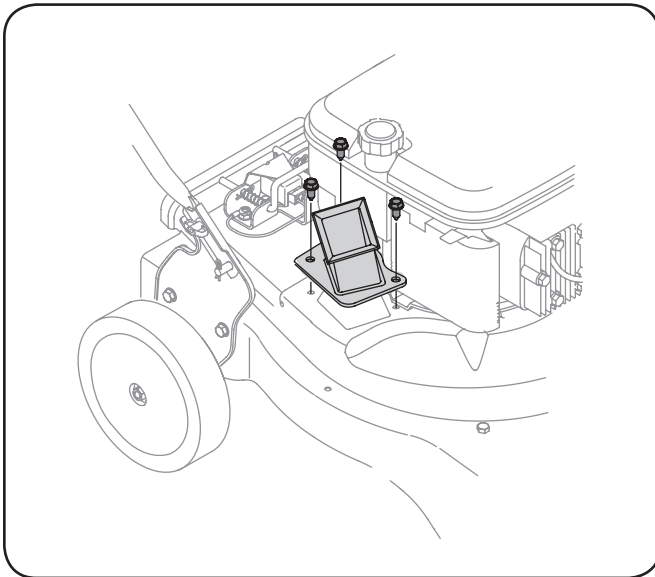

Figure 7-1
3. Remove the three hex cap screws holding the chipper chute to the upper housing. See Figure 7-1.